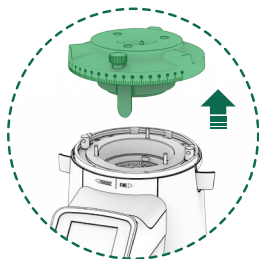

Fig. 13
12.3.9. Pull up holding the grind regulator (16), according to access the grinding cavity, clean the interior with the help of a brush or vacuum cleaner and remove any coffee residue from the grinding cavity (Fig. 13).